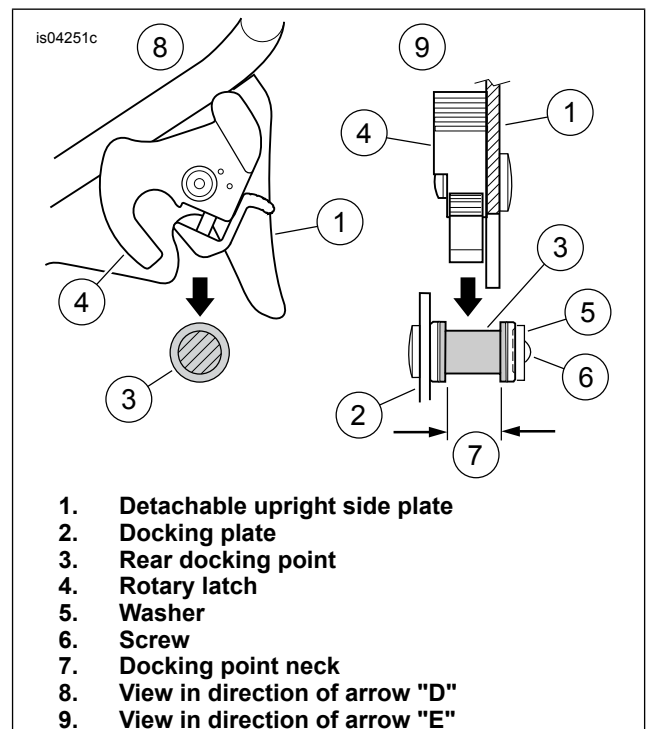
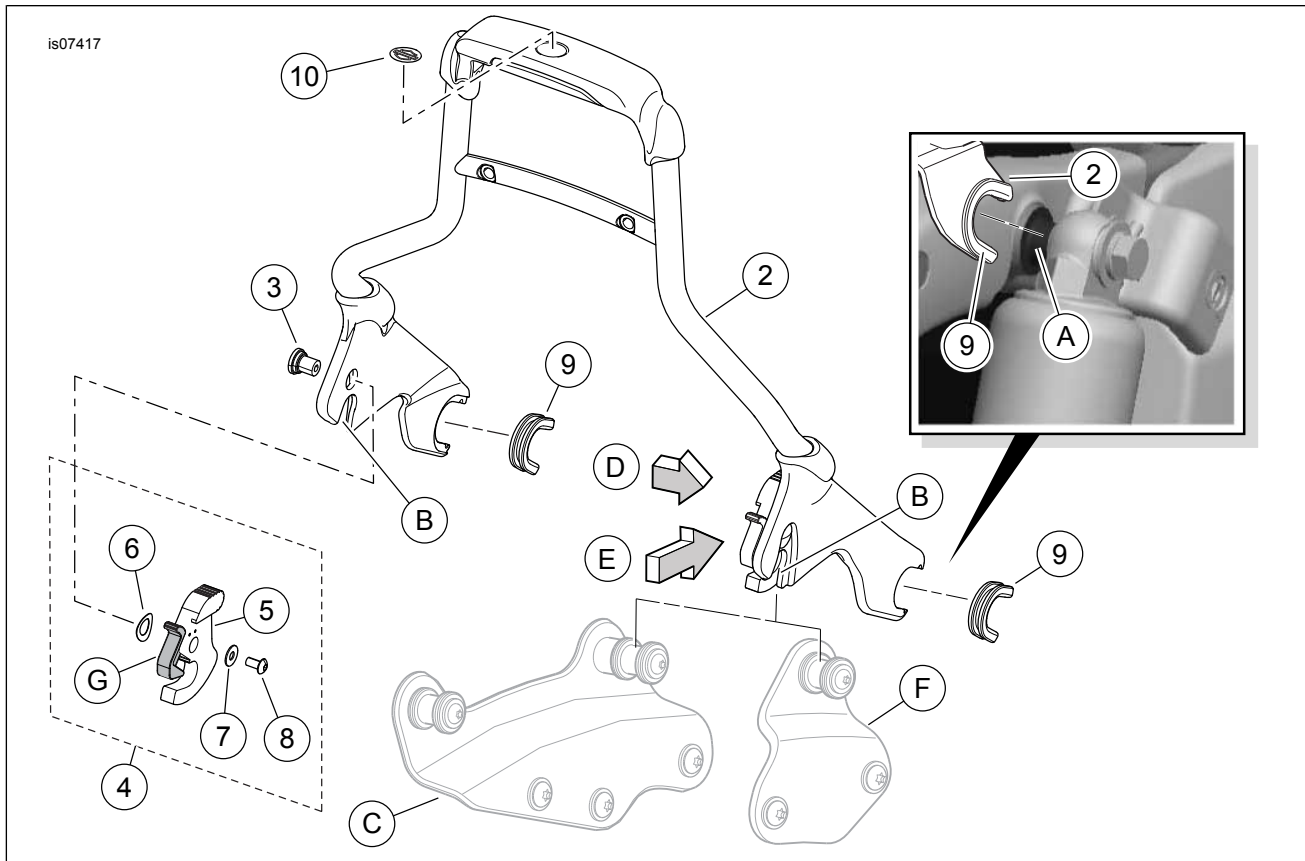

Figure 1. Proper Alignment of Latch in Rear Docking Point, Views in Direction of Arrows (D) and (E)
Figure 2. Service Parts, Air Wing Detachable Upright
See Figure 2 and Table 1.
2. See Figure 2. While standing behind the motorcycle, place the left-side and right-side front upright notches (with bushings in place) onto the docking points (A) inboard of the upper shock absorber mounts. Make sure the notch bushings (9) seat fully into the shock absorber docking points.
After installing the upright, check to be sure it is secure. The front and rear docking points must be fully engaged. See Figure 1 for correct engagement.
3. See Figure 2, arrows (D) and (E), and Figure 1. Position the rotary latches (4) over the rear docking points (3). Check to be sure the upright sides (1) and latches fit into the neck (7) of the rear docking points as shown. This may require some gentle squeezing or spreading of the upright sides.
5. To remove the upright, press the release button (G) on each side and pull the latch levers back. Carefully lift the rear of the upright up and pull it out of the front docking points.
D	To right side of vehicle (view direction for Figure 1)
E	To front of vehicle (view direction for Figure 1)